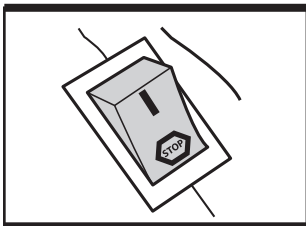

Fig. 14
b). Set the ignition switch (A18) to its off position "STOP". (See Fig. 14)